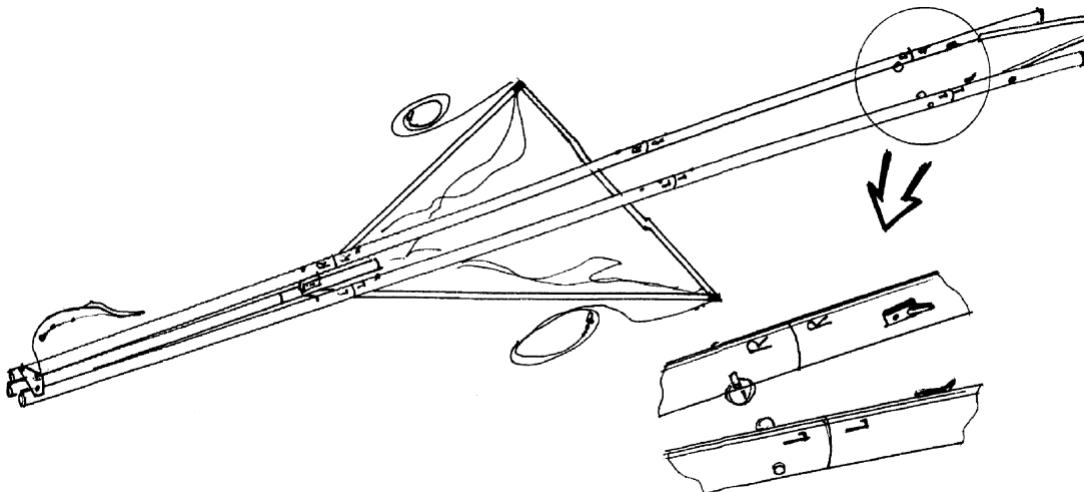

Fig. 5
2.1.6. Turn the front part of the frame with uprights so that the channel which secures the kingpost is on top. Attach the N2, N3 and N4 leading edge tubes using the telescopic connectors that are fixed with button springs. While performing the set up procedure of the leading edge keep to the following marking: L-left, R-right (Fig. 5). Tubes N4 fix with the pin secured by the safety rings. Washout tips must be directed as shown in Fig. 5a. Check that the tube junction in the telescopic connectors are secured.